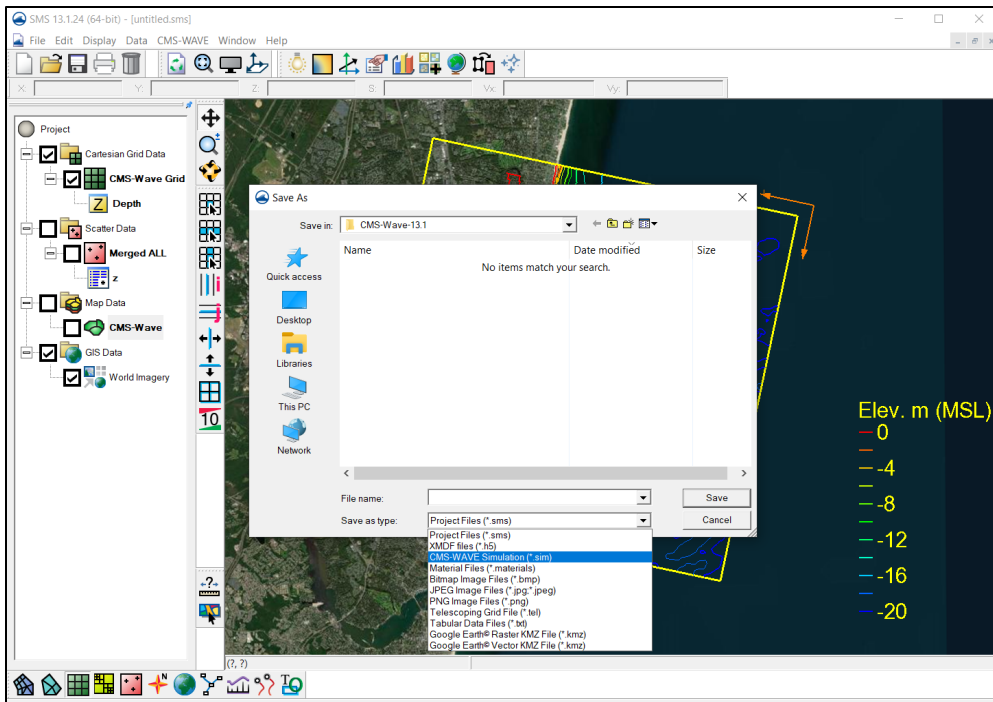

Figure 14. Display *Information* dialog.
- Select *File* | **Get Info...** to open Display the *Information* dialog which provides the number of rows and columns in the **Cartesian module** (Figure 14).